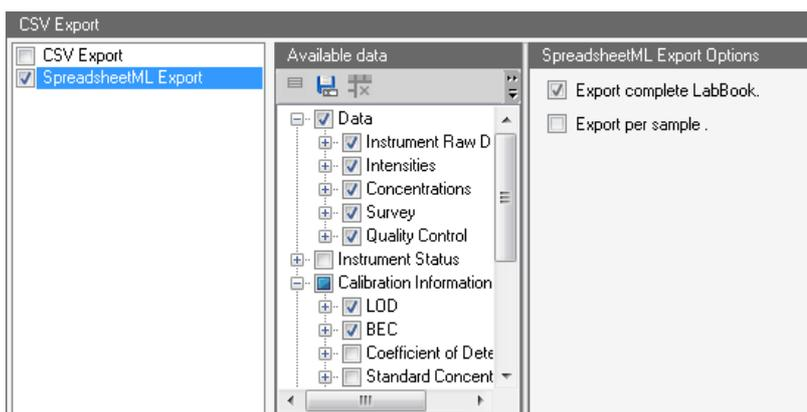

Figure 5-13. Automatic Export, XML settings
- Select **SpreadsheetML Export** to define these export settings, see Figure 5-13.